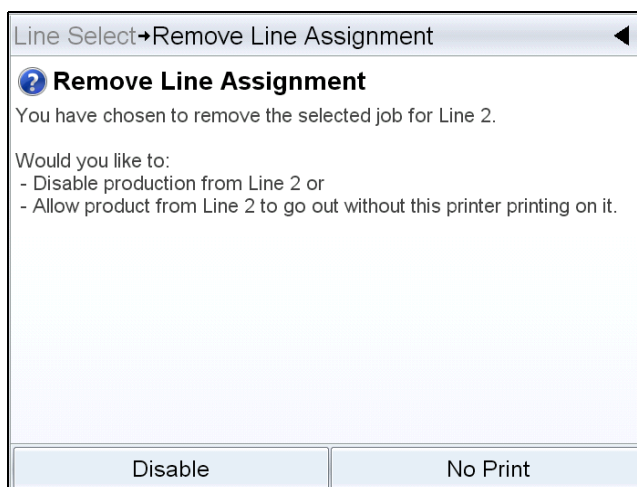

Figure 6-31: Remove Line Assignment
- b. *Remove Line Assignment* page appears with the following choices (see Figure 6-31):